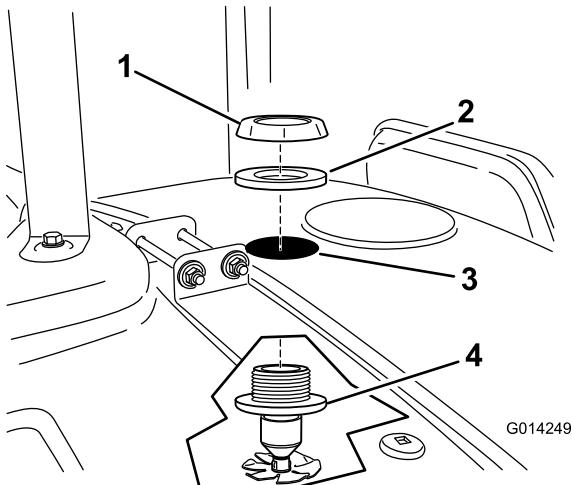

Figure 17
7. Install a nozzle assembly up through the drilled hole (Figure 17).
8. Install the plastic nut and gasket over the exposed threads of the bulkhead on top the tank (Figure 17).